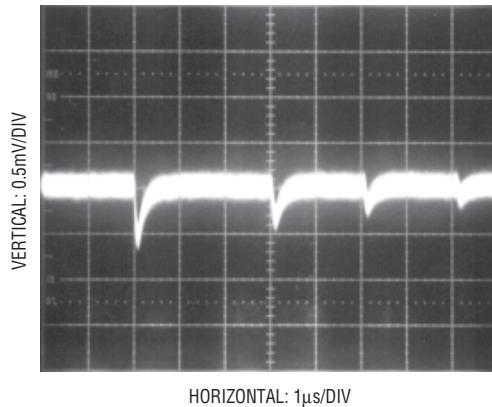

Figure 15. Adequate Reference Settling
1. Transients on the reference inputs caused by the capacitive switching currents must settle completely during each bit test (each 4 ACLK cycles). Figures 15 and 16 show examples of both adequate and poor settling. Using a slower ACLK will allow more time for the reference to settle. However, even at the maximum ACLK rate of 4MHz most references and op amps can be made to settle within the 1µs bit time. For example the LT1236 will settle adequately.